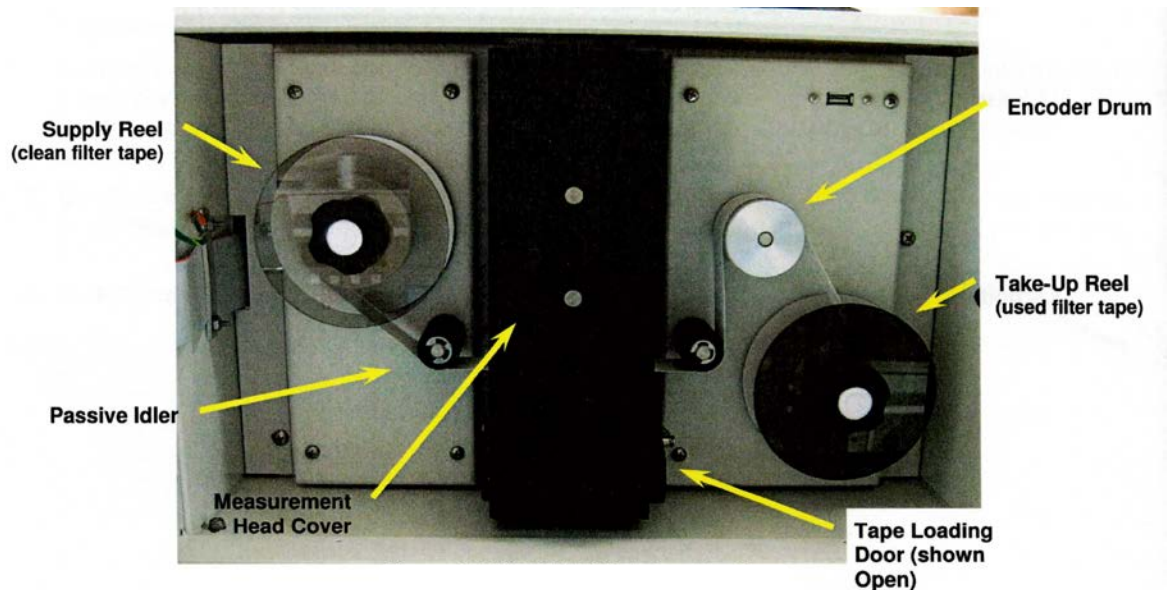

Figure 2.2 Filter tape routing
- Install the new filter tape roll onto the left reel, with the tape coming off of the left side of the roll. Route the tape exactly as shown in Figure 2.2. The tape should go under the black idler, though the slot in the measurement head cover, under the other black idler, up over the rough encoder drum, and then down to the take-up reel on the right. Fasten the loose end of the tape to the